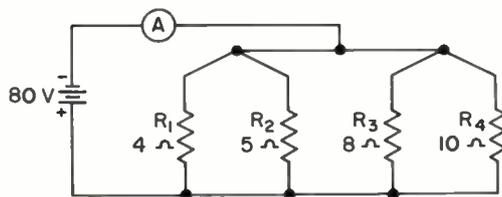

Fig. 7
3. The ammeter in Fig. 7 reads _____ amperes.
4. In Fig. 7, the voltage across R_1 is _____ volts; the voltage across R_2 is _____ volts; the voltage across R_3 is _____ volts; and the voltage across R_4 is _____ volts.